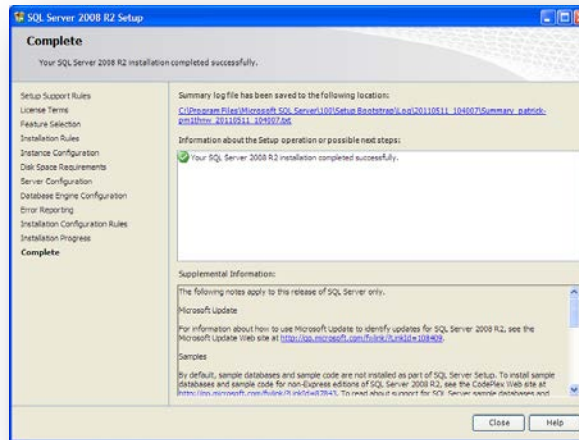

Figure 51 – SQL Server 2008 Completed Installation
2. In the “Add/Remove Programs” window, click on the “Add/Remove Windows Components” button. See Figure 51.
7. Click “Next” in the “Windows Components Wizard” window from Figure 51 to install IIS.